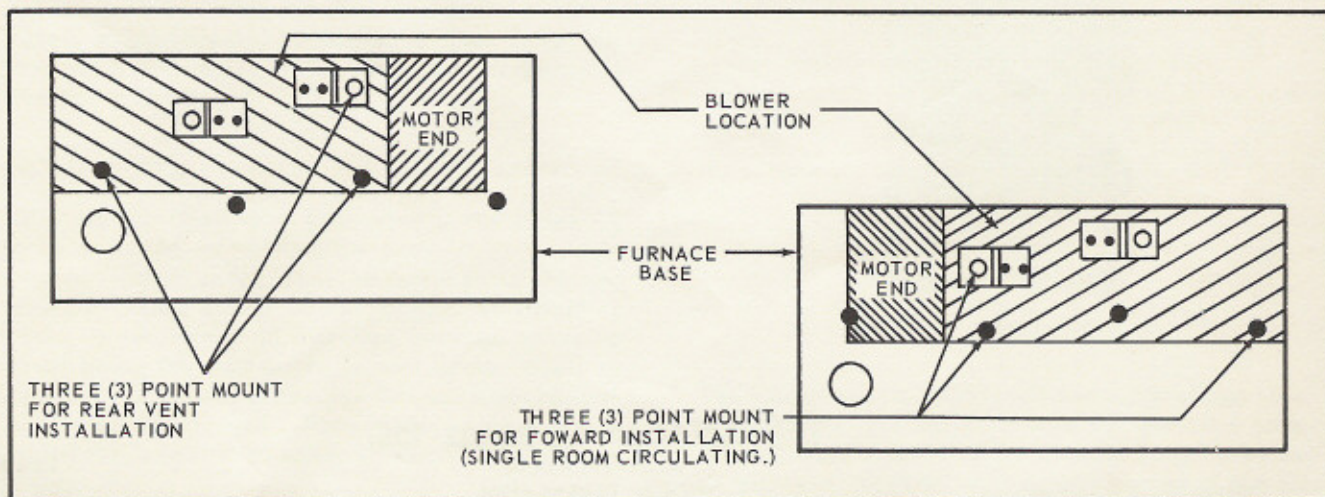

Figure 8. Alternate Blower Locations
- Slide blower under proper rear mounting clip and locate front mounting grommets over the two front locating pins. See Figure 8. Locate the furnished clips over the two front locating pins, and screw to furnace base.
- a. Slide blower under proper rear mounting clip and locate the two front mounting grommets over front locating pins. See Figure 8. Locate the two furnished mounting clips over the two locating pins and screw to furnace base.